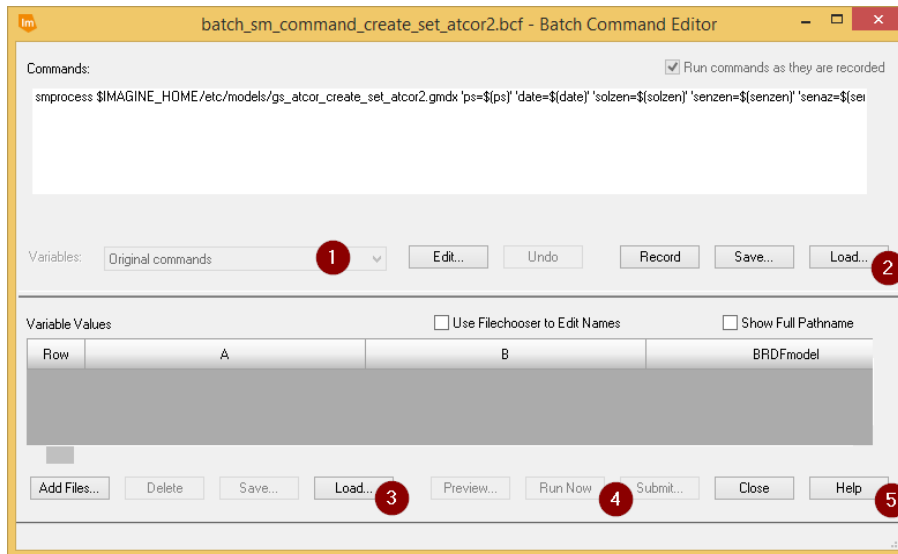

Figure 8: ERDAS IMAGINE Batch Command Editor.
2. Enter all required inputs in the dialog and click the 'Batch' button. The Batch Command Editor opens (Figure 8).
3. Select '*One or more inputs, one output*' from the field '*Variables*' as shown in Figure 8 (1).
4. Load a prepared **Batch Command File (*.bcf)** (2).
5. Load a prepared **Batch List File (*.bls)** (3) corresponding to the loaded Batch Command File. If necessary, check the box '*Show Full Pathname*' to see the entries of the loaded list.
6. Click '**Run Now**' or '**Submit**' (4) to launch the batch job. See the ERDAS IMAGINE Help (5) for more information.
1. Click **File > Batch > Open Batch Command File**. The Batch Command Editor opens (Figure 8).
2. Select a prepared **Batch Command File (*.bcf)** as shown in Figure 8 (2).
3. Load a **Batch List File (*.bls)**, Figure 8 (3), corresponding to the loaded Batch Command File. If necessary check the box '*Show Full Pathname*' to see the entries of the loaded list.
4. Click '**Run Now**' or '**Submit**' (4) to launch the batch job. See the ERDAS IMAGINE Help for more information (5).